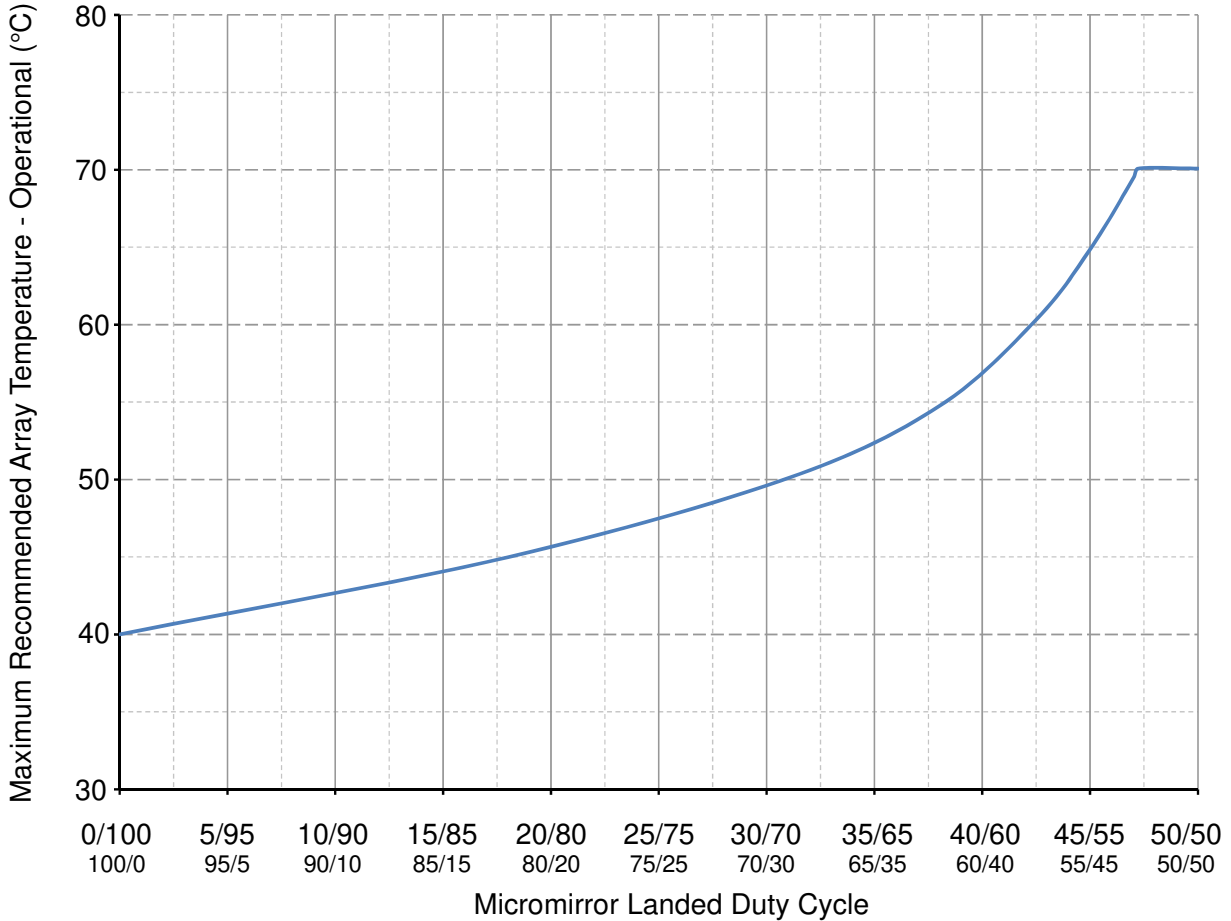

Figure 6-1. Maximum Recommended DMD Temperature—Derating Curve
- (11) Long-term is defined as the average over the usable life.
- (12) Per Figure 6-1, the maximum operational array temperature should be derated based on the micromirror landed duty cycle that the DMD experiences in the end application. See Section 7.5 for a definition of micromirror landed duty cycle.
- (13) Array temperatures beyond those specified as long-term are recommended for short-term conditions only (for example, power-up). Short-term is defined as cumulative time over the usable life of the device and is less than 500 hours.